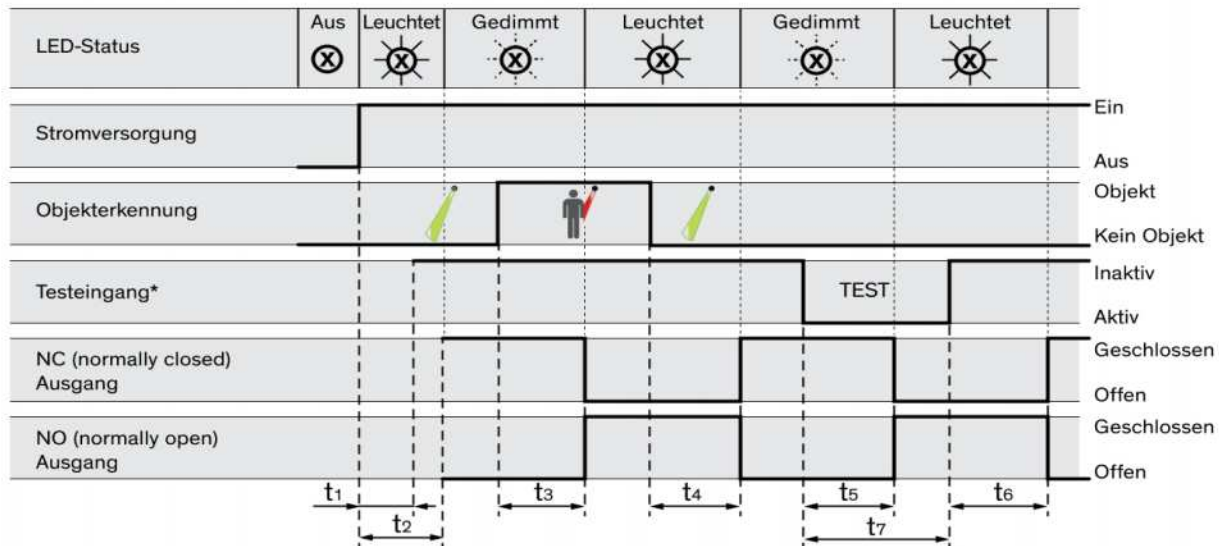

Figure 25: Timing diagram for relay output
4. When the voltage level of the test input changes, the sensor will recognize it as test signal (test active). The sensor switches the output and the status LED to "OBJECT DETECTED" (see Figure 25, Timing diagram).